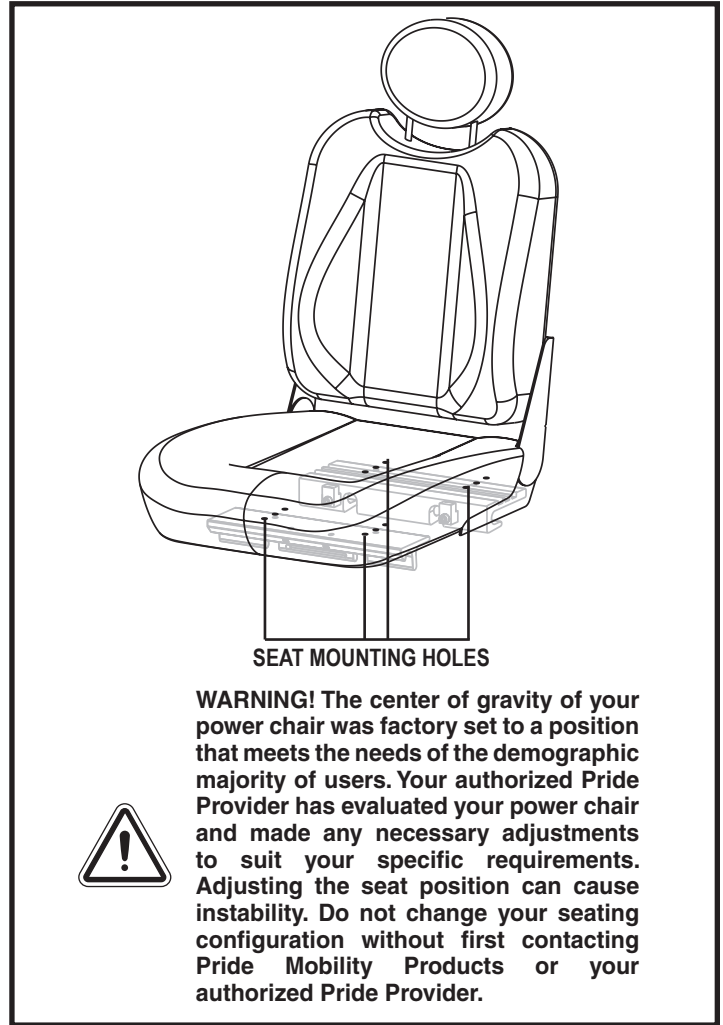

Figure 9. Seat Position Adjustment
6. Reposition the extrusions on a different set of mounting holes. You must move both extrusions the same number of holes either forward or backwards. **See figure 9.**